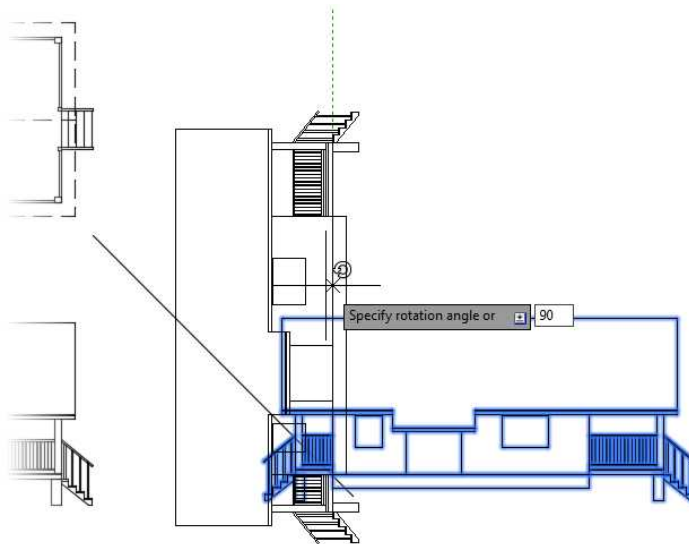

FIGURE 10.51: Rotating the copied elevation
24. For the angle of rotation, enter 90↵ (see Figure 10.51).